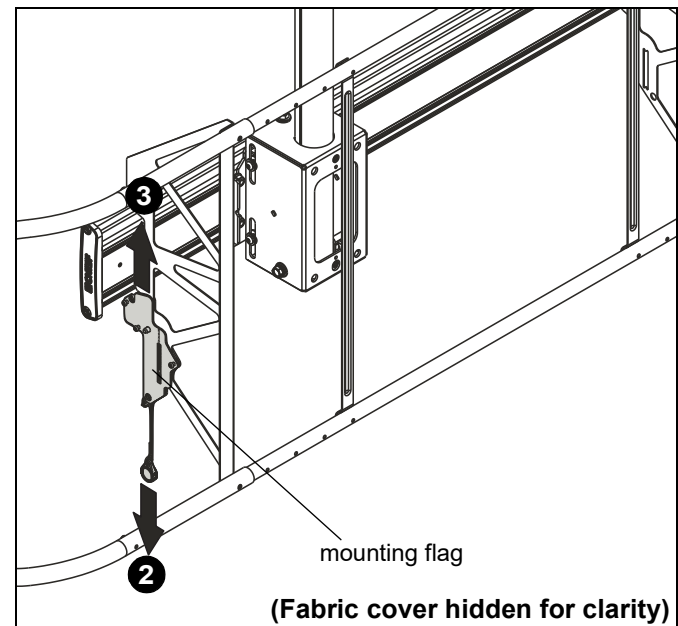

Figure 16
2. Pull down mounting flag and pull under lower edge of mounting rail. (See Figure 16)
3. Release mounting flag to secure cover to rail. (See Figure 16)